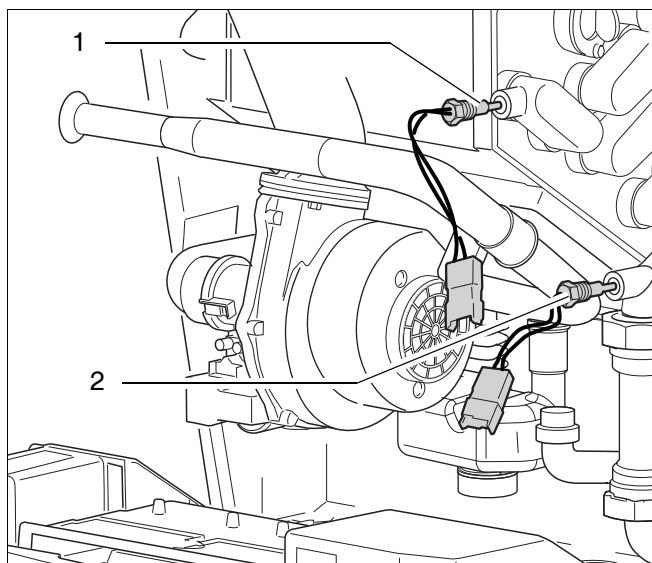

fig. 94 Replacing the supply/return sensors
- Disassemble the supply and return sensors (see fig. 94, pos. 1 and 2).